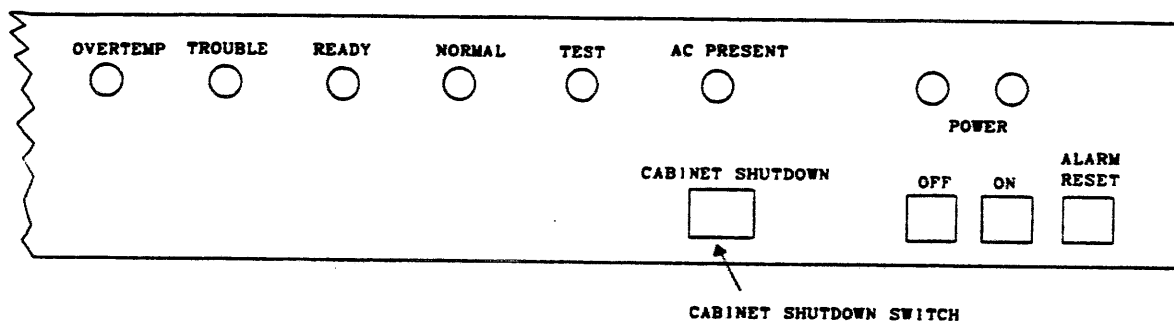

FIGURE 4-16. OPERATOR CONTROL PANEL
1. Press the CABINET SHUTDOWN switch located on the Operator Control Panel. See Figure 4-16.